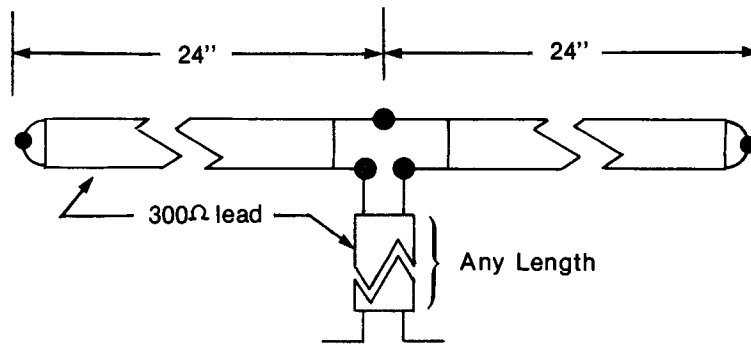

FIGURE 2 FOLDED DIPOLE ANTENNA
- Connect a folded dipole antenna, 48 inches long minimum, to the R66 block at pins 12 & 13. (See Figure 2)